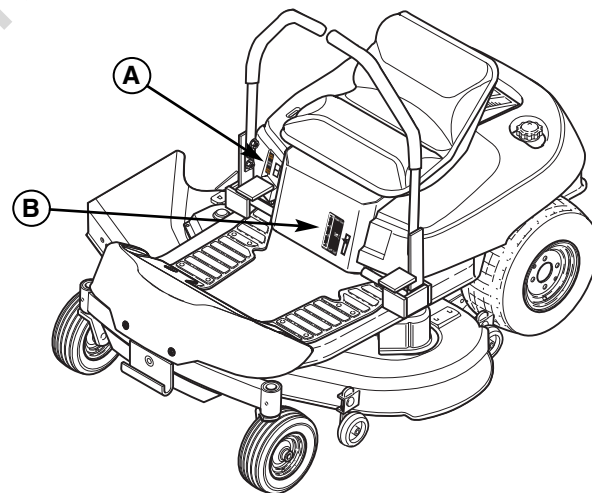

Figure 33. Cutting Height Adjustment
To increase the mower cutting height (raise the mower deck), press the top of the mower cutting height switch (A, Figure 33). To decrease mower cutting height (lower the mower deck), press the bottom of the switch. Mower cutting height range is 3-3/4" to 1-1/2" (9,5-3,8 cm). The cutting height gauge indicates the position of the mower deck. The cutting height gauge (B) is located on the front of the rider, just behind the driver's left leg.